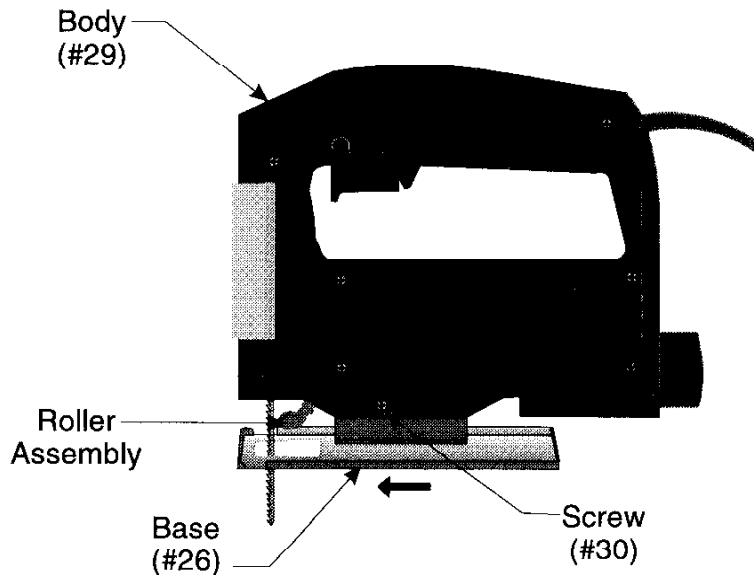

Figure 2 -- Adjusting the Roller
Step 1: Loosen the SCREW (#30) located on the right side of the BODY (#29) just above the BASE (#26) as shown in Figure 2.